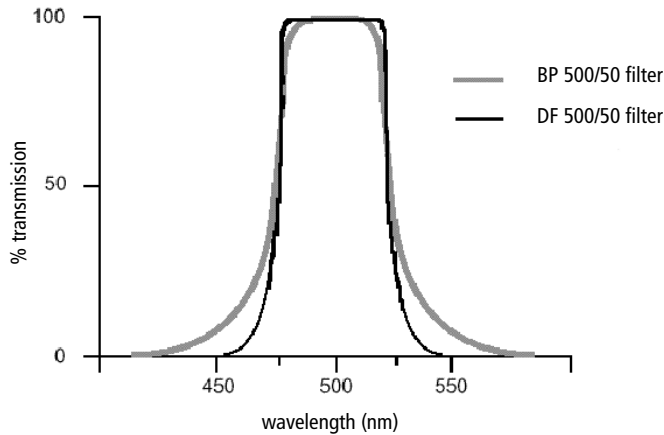

Figure 2-11 Bandpass (BP) vs discriminating (DF) filters
Discriminating (DF) filters have the same general function—they transmit a relatively narrow band of light. The principal difference between BP and DF filters is their construction. DF filters have more cavities or layers of optical coatings, resulting in a steeper transmission curve than the curve for a BP filter. This steep slope means that a DF filter is better at blocking light outside the rated bandwidth of the filter. See Figure 2-11 on page 55.